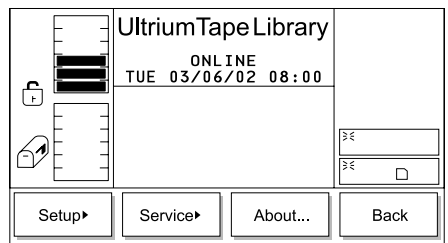

Figure 220. Main Menu (alternate screen)
1. From the Main Menu's initial screen, press the button below the **More** softkey. The Main Menu's alternate screen displays (see Figure 220).